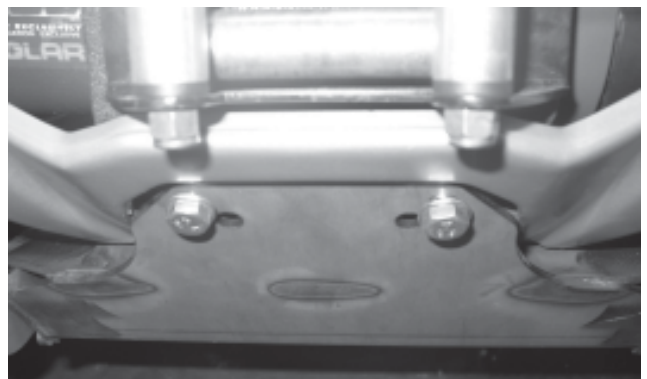

Figure 4
3. Secure the plow mount to the winch mount. Use a 16mm socket with two M10x25mm bolts with 3/16" flat washers (Figure 4). Do not tighten all the way.